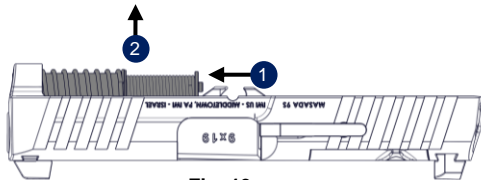

Fig. 19
6. Remove the recoil spring from its housing under the barrel by slowly pushing the spring towards the front of the barrel. Lift the recoil spring up and out of the slide (Fig. 19).